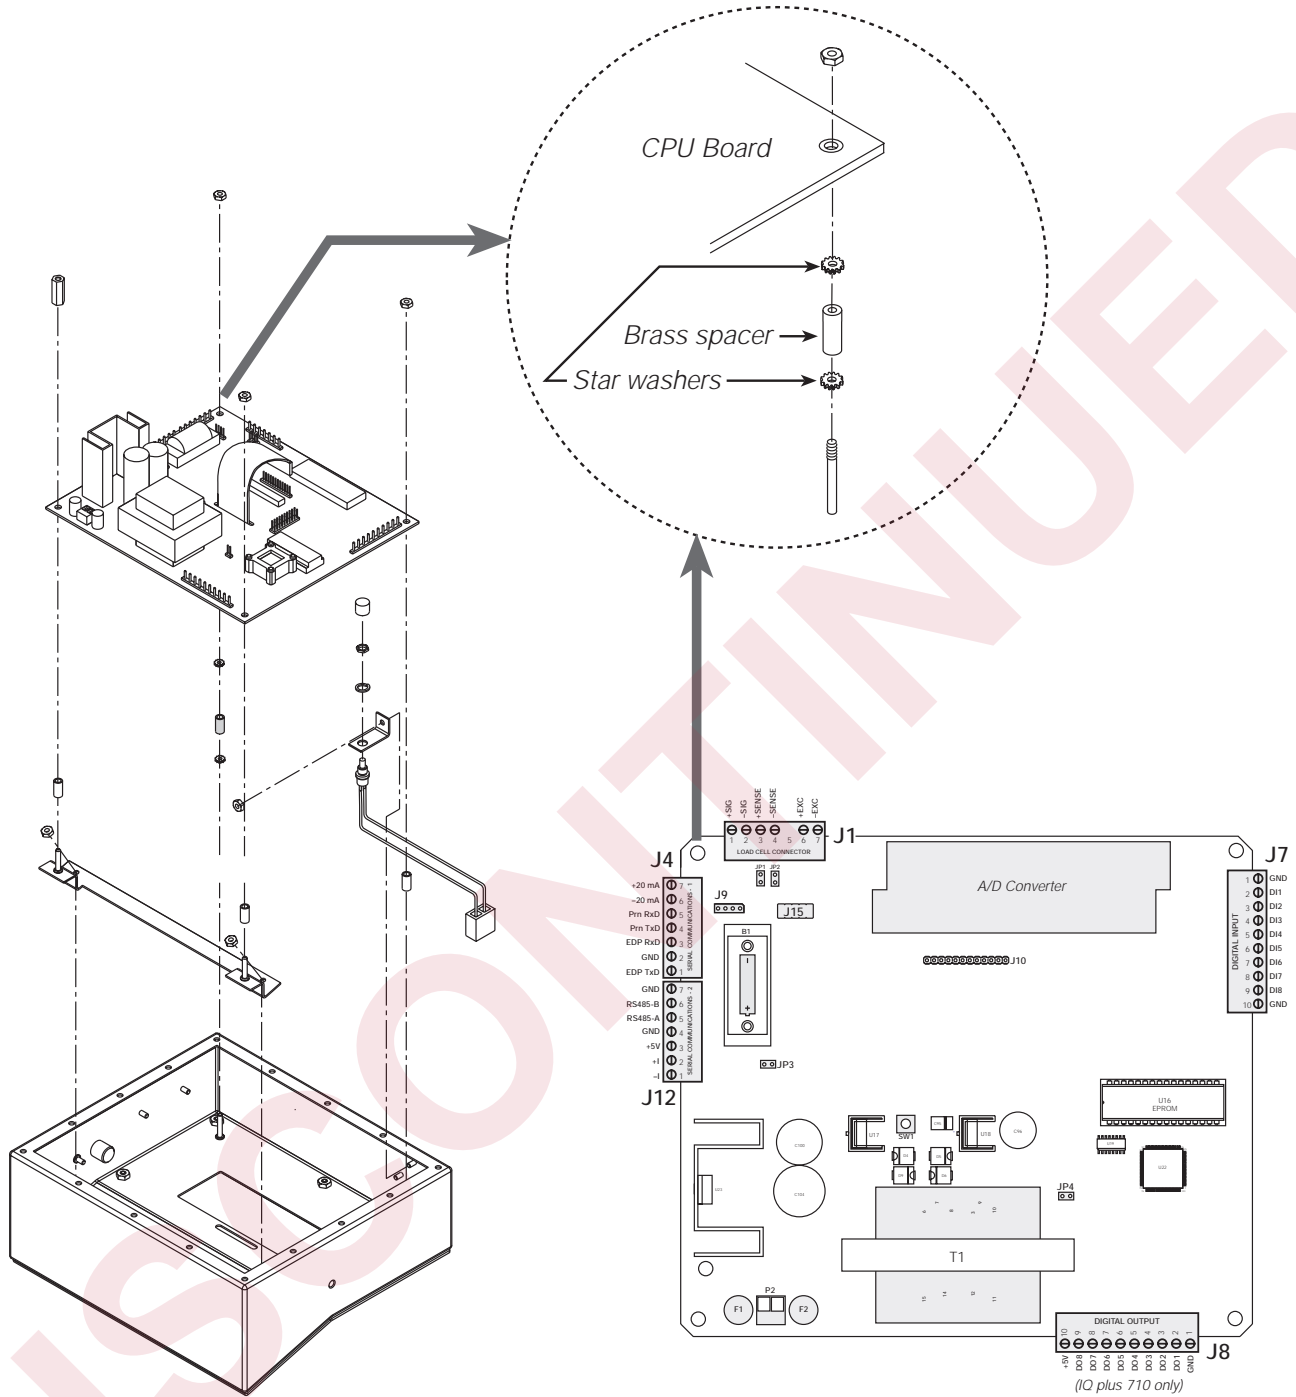

Figure 2. Installation of Brass Spacer and Star Washers for Version 2 IQ plus 510/710 CPU and Power Supply Board
5. Unplug connectors J1 (load cell cable), J4 and J12 (serial communications), J7 and J8 (digital I/O), J6 (keypad ribbon cable), and JP4 (setup switch). If an analog output board is installed, disconnect the analog output cable. See Figure 2 on page 2 for connector locations.
Before installing the new board, remove the nylon spacer from the corner adjacent to connectors J1 and J4 and replace it with the star washers and brass spacer as shown in Figure 2 on page 2.